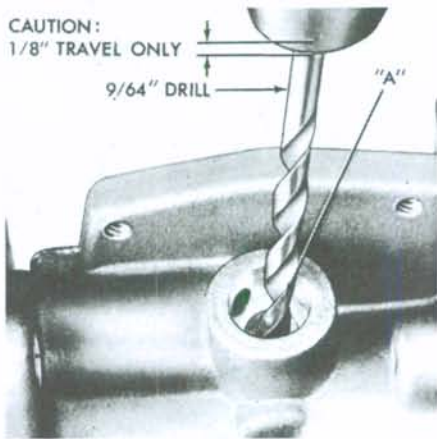

Fig. T1-3—On models with fuel pump, refer to text for removal of outlet check valve.
through opening in carburetor body for inlet needle and seat (20). On carburetors with fuel pump (4), fitting (26) contains the inlet check valve. To remove outlet check valve (25), first remove inlet fitting and check valve (26), then carefully drill outlet check valve with a 9/64-inch drill to a depth of 1/8-inch as shown in Fig. T1-3. CAUTION: Do not drill too far or carburetor body will be damaged. Thread an 8-32 tap into the outlet check valve, then use the proper size nut and flat washer to convert tap into a puller as shown in Fig. T1-4. Pull the check valve out by tightening nut.
Disassembly of carburetor will depend upon the extent of service required. Parts (4, 13, 14, 16, 20, 21, 25 & 26) may be damaged by most commercial carburetor cleaning solvents and must be removed. The fuel inlet fitting (26) is pressed into carburetor body on all models. On models with fuel pump (4), fitting (26) contains the inlet check valve. To remove the outlet check valve (25), first remove fitting and check valve (26), then carefully drill outlet check valve with a 9/64-inch drill to a depth of 1/8-inch as shown in Fig. T1-3. **CAUTION:** Do not drill too far or carburetor body will be damaged. Thread an 8-32 tap into the outlet check valve, then use proper size nut and flat washer to convert tap into a puller as shown in Fig. T1-4. Pull the check valve out by tightening nut.